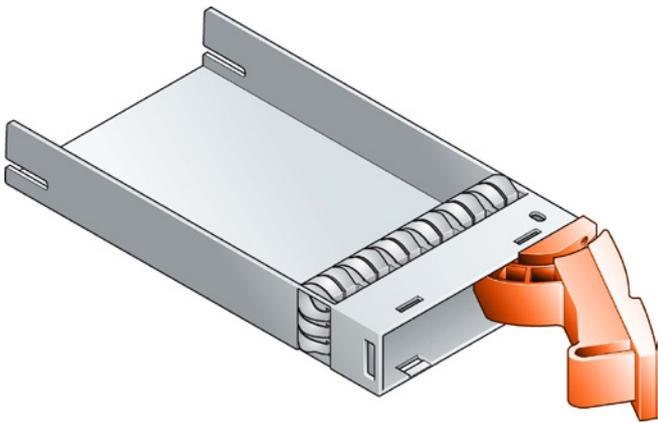

Figure 7: Drive Carrier Module (Note: ensure that the handle always opens from the left.)
**IMPORTANT INFO:** Ensure that the carrier is orientated so that the drive is uppermost and the handle opens from the left (See Figure 7).